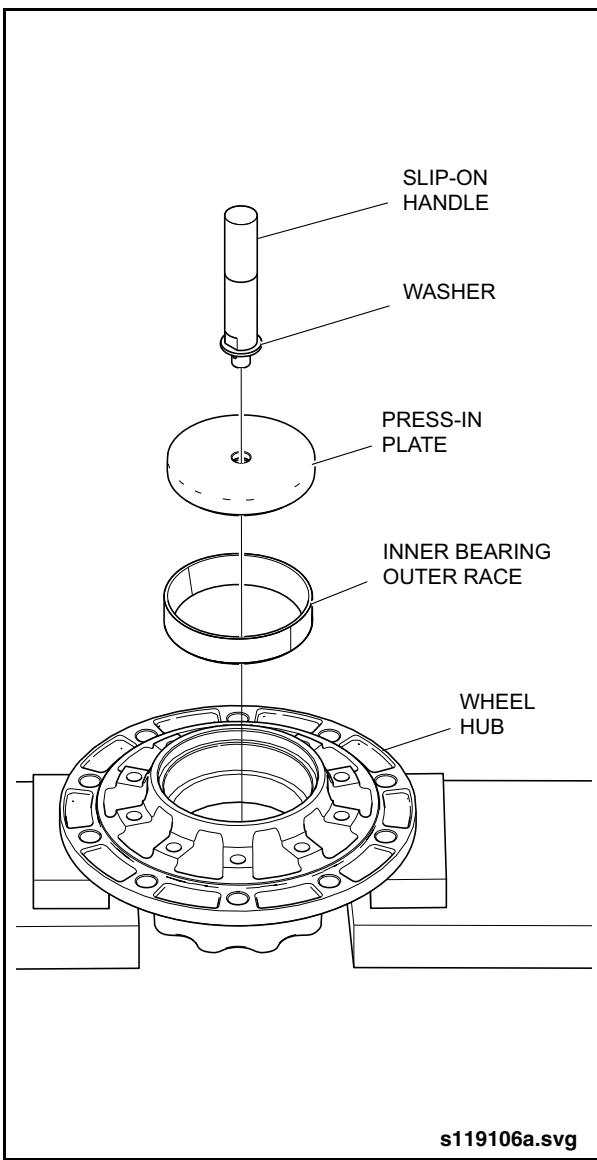

Fig. 2-24: Installing Inner Bearing Outer Race
1. Place wheel hub on its outer bearing support with a piece of wood supporting from underneath. See “Fig. 2-24: Installing Inner Bearing Outer Race” on page 25.